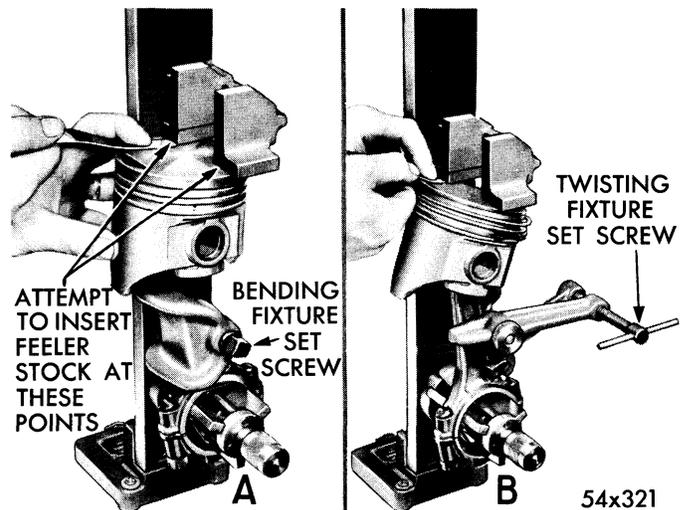
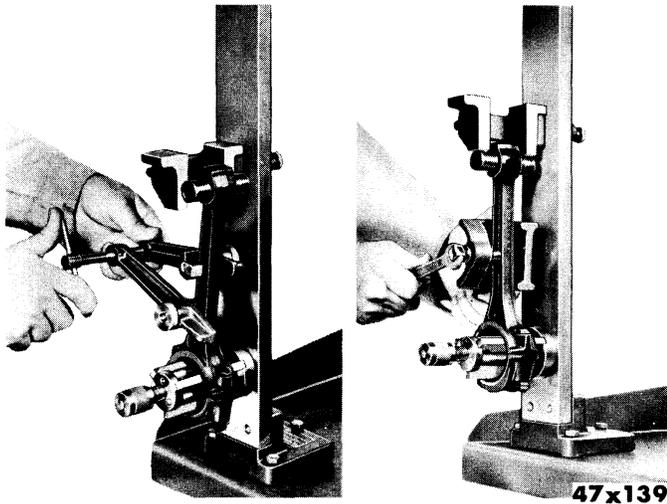

Figure 36—Checking Connecting Rod and Piston for Alignment
Figure 37—Correcting Connecting Rod for Bend or Twist
CHECKING FOR BEND—Install the connecting rod and piston assembly in Fixture C-481 as shown in Figure 36. The top of the piston should be flush with the tool. The clearance between the piston and the tool shown in (A) of Figure 36 should be zero (0), however, a .002 inch variation is allowable. If more than .002 inch feeler stock can be inserted, the rod should be disassembled and checked and straightened as shown in Figure 37.
CHECKING FOR TWIST—Use Tool C-481 for checking for twist as shown in (B) of Figure 36. Tilt the piston and if more than .002 inch feeler stock can be inserted between piston and tool, disassemble rod and correct as shown in Figure 37.